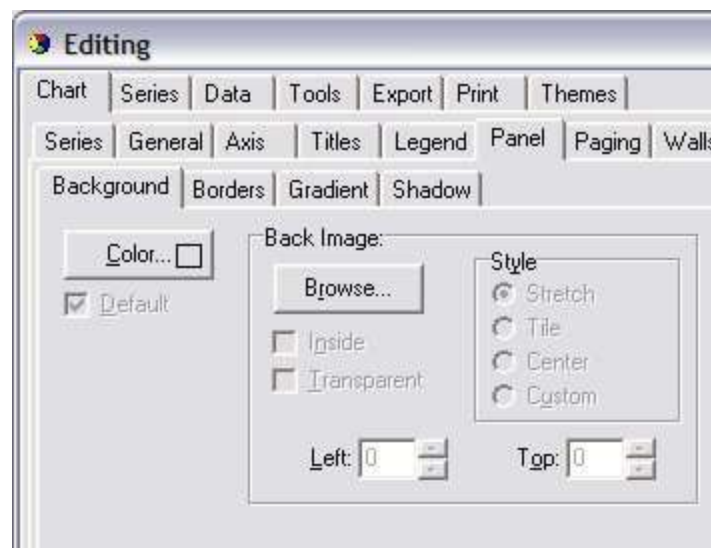

Figure 5 - Editing the background of a graph
**Changing the Background:** The user can assign a background color or image by selecting the Panel sub-tab from the Chart main tab. See Figure 5.